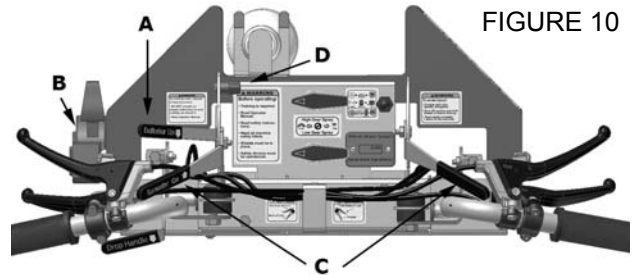

FIGURE 10
This machine uses a familiar 3-hole cyclone type spreader mechanism, and comes factory set to broadcast spread a pattern width of 14 ± 1 feet (4.3 ± 0.3 meters). Using a 7 ± 1 foot (2.1 ± 0.3 meters) overlap travel pattern provides an even distribution of most products. NOTE: Actual spread pattern width and overlap may vary based on your calibration (refer to Spreader Calibration in this section). Referring to FIGURE 10: A Deflector Lever (A) remotely controls a Deflector to cut off the right side of the spread pattern for trimming. A Third-hole Lever (B) remotely controls a Third-hole Adjuster Plate that should be used with the Deflector to compensate for the amount of product required while trimming and to balance the spreader pattern for even distribution. An opening and closing Hopper Lever (C) remotely controls the delivery of granular material from the Hopper. A Rate Adjustment Knob (D) adjusts the amount of product delivered when the hopper is open. The sprayer can be operated at the same time the spreader is in use, and the seven-foot overlap pattern is also effective for the sprayer.